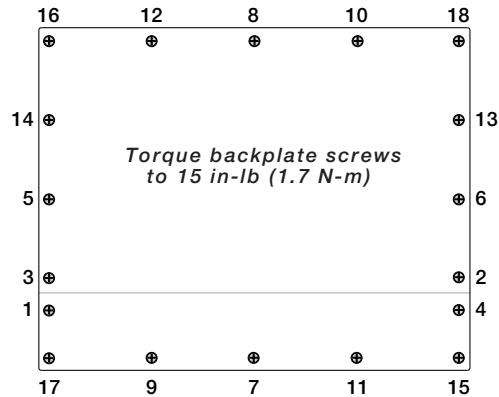

Figure 14. 920i Back Cover Installation
3. Torque screws to 15 in-lb (1.7 N-m), using pattern shown in Figure 14, to prevent distorting the backplate gasket.